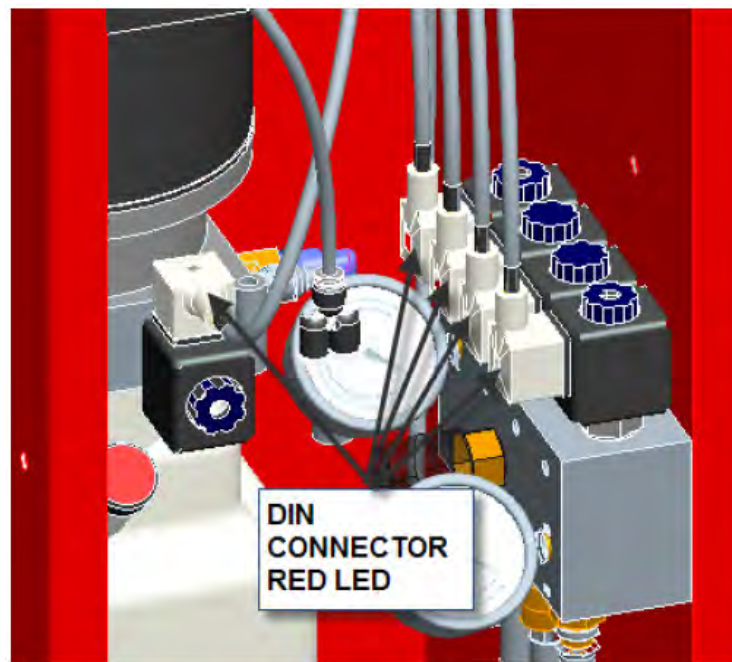

Figure 19- Din Connector/Solenoid assemblies.
To verify that the pneumatic switches are functioning, remove the rear panel on the console and locate the five (5) Din Connector/Solenoid assemblies; (four (4) on manifold block and one (1) on the pump). When the lift reaches its fully lowered position, these din connectors will emit a red light for 3 to 5 seconds. (see **Figure 19**).